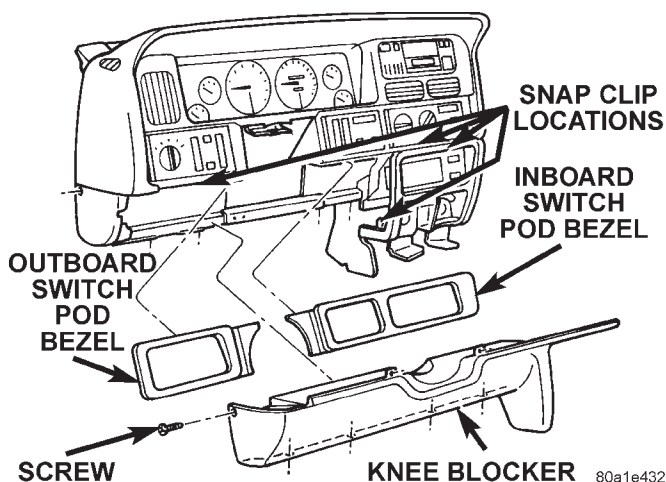

Fig. 4 Knee Blocker Remove/Install
(1) Disconnect and isolate the battery negative cable.
(2) Remove both switch pod bezels as described in this group.
(3) Remove one screw on each side of the steering column that secures the upper edge of the knee blocker/steering column cover to the instrument panel (Fig. 4).
(4) Remove the one screw that secures the outboard end of the knee blocker to the instrument panel.
(5) Remove the four screws that secure the lower edge of the knee blocker to the lower instrument panel reinforcement.
(6) Using a trim stick or other suitable wide flat-bladed tool, gently pry the edges of the knee blocker away from the instrument panel at the snap clip retainer locations (Fig. 4).
(7) Remove the knee blocker/steering column cover from the vehicle.
(8) Reverse the removal procedures to install.